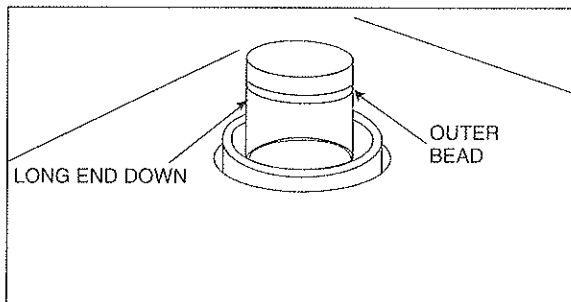

Figure 5
2. Assembling venting sections. Use only vent supplied and listed for use with this heater. Included with your DV400 is an inner flue extension. This extension must be connected to the top of the heater before any other vent section is connected. This extension fits into the flue collar located on the heater. See Figure 5. To attach a straight section to
Included with your DV400 is an inner flue extension. You will also find a flue restrictor and 2 screws in the bag with the installation instructions. (This restrictor is recommended for vertical installations of 15' or more from the floor). Bend the 2 tabs inward on the inner flue extension (see Figures A & B) and put the damper in position with the screws. This extension must be connected to the top of the heater before any other vent section is connected. This extension fits into the flue collar located on the heater. (See Figure 5).
The Dura-Vent GS is unitized and twist-locks together. For the twist-lock procedure, consult Figure 5 and do the following:
(1) Four indentations, located on the female ends of pipes and fittings, are designed to slide straight onto the male ends of adjacent pipes and fittings, by orienting the four pipe indentations so they match and slide into the four entry slots on the male ends. (Figure 5.) Push the pipe sections completely together, then twist-lock one section clockwise approximately one-quarter turn, until the two sections are fully locked. The female locking lugs will not be visible from the outside, on the Black Pipe or fittings. They may be located by examining the inside of the female ends.
(2) Horizontal runs of vent must be supported every three feet. Wall Straps are available for this purpose.